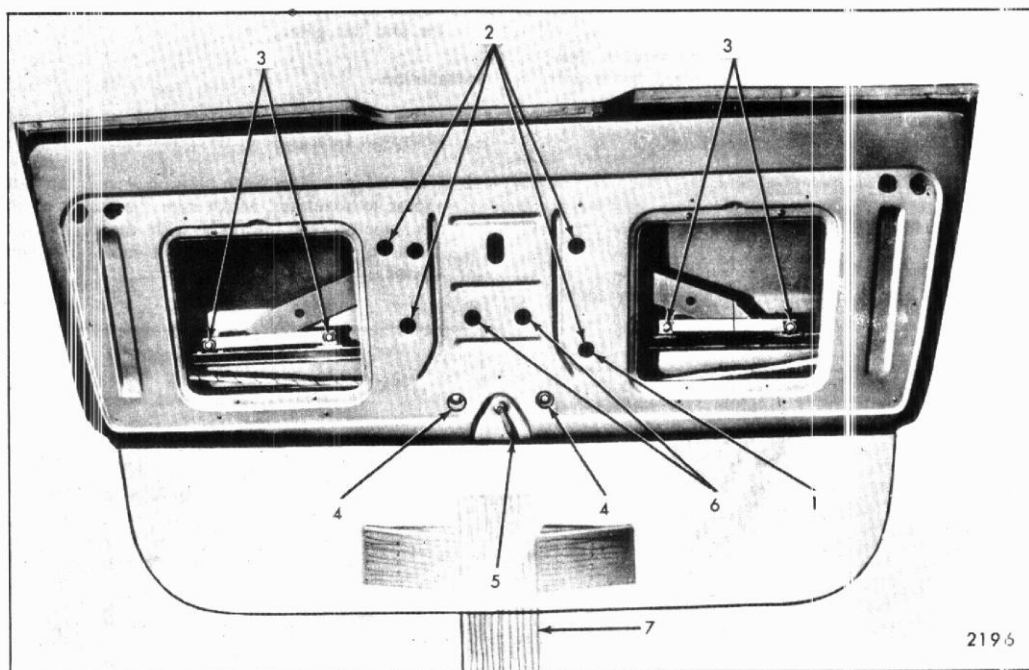

Fig. 9-52-Tail Gate Window Hardware
2. On manual styles, position tail gate window so that outside handle attaching nuts are accessible through gate inner panel and window regulator access holes (Fig. 9-52). Remove attaching nuts.